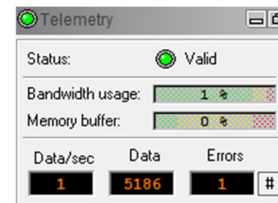

Figure 4-5: Telemetry Panel
- During logging observe the controls in the **Telemetry** panel (Figure 4-5):